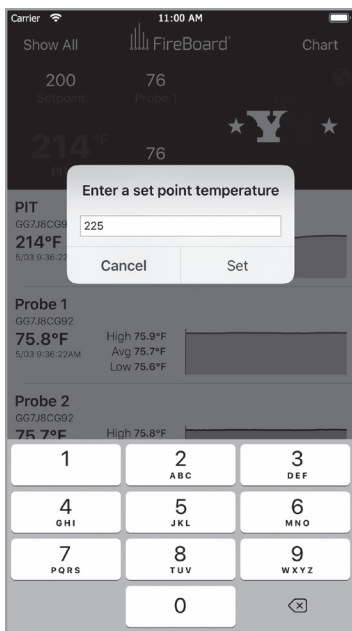

FIG 17
- You can change the pit's setpoint by tapping on the setpoint in the grey banner (**Figure 17**). Simply enter your new desired setpoint and tap the “Set” button. Please note that changes to the setpoint take a few seconds to take effect. Please be patient for them to be reflected in the cooker and in the app's dashboard.